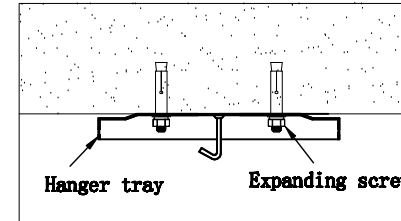

Fig1
1. For the concrete ceiling, use 8mm impact drill to drill hole first, and then use expansion screws to fix the base. (Fig1)